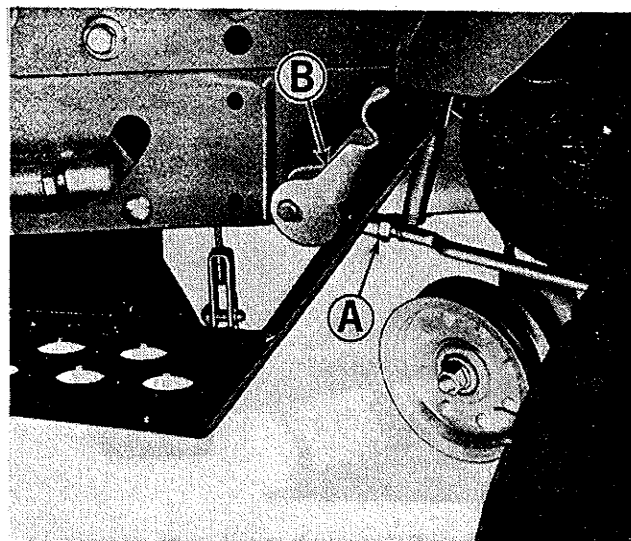

Figure 13. Parking brake adjustment on left side of tractor.
1. See figure 13. **NOTE: ALL DIRECTIONS GIVEN FOR ADJUSTING THE PARKING BRAKE, ARE AS IF YOU ARE STANDING AT THE FRONT OF THE TRACTOR LOOKING BACK TOWARD THE PARKING BRAKE.** Loosen nut (A) by turning it clockwise.
2. See figure 13. After insuring the tractor is either on a level surface or the wheels are blocked so it will not roll, pull forward on the parking brake handle (B) to disengage the parking brake.
3. Rotate parking brake handle (B) clockwise to tighten the parking brake, or counter-clockwise to loosen it. Turn the
handle one complete revolution when making any adjustment. After turning the handle (B) one revolution place it in the engaged position as shown in figure 13, with the handle at approximately in the one o'clock position as you face it from the front of the tractor.
4. After the correct adjustment has been made, use a wrench to tighten nut (A) securely by turning it counter-clockwise.